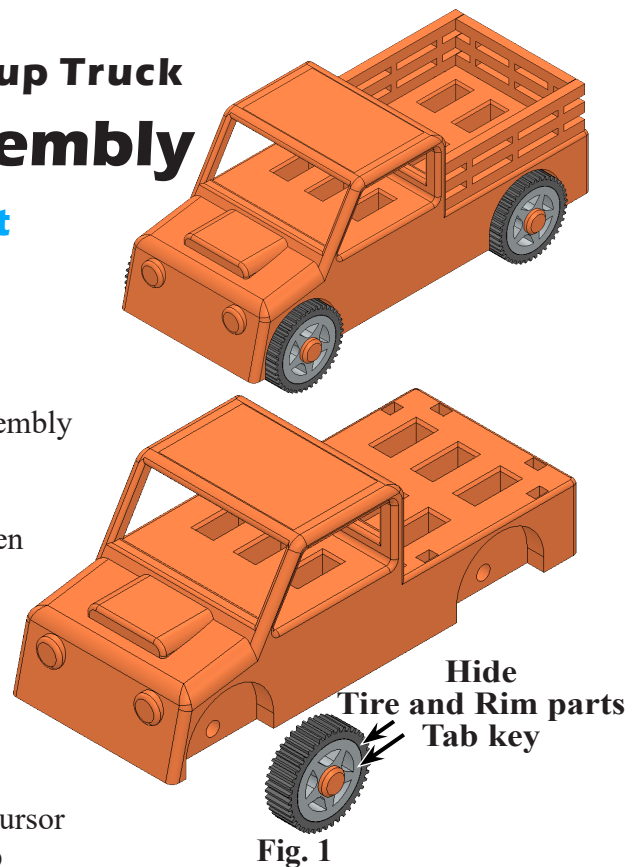

Fig. 1
Step 4. Click to place Wheel Assembly as positioned in **Fig. 1**.
Step 1. **Hide Tire and Rim**  parts. To hide, move cursor over component in graphics area and press **Tab** key to hide, **Fig. 1**.